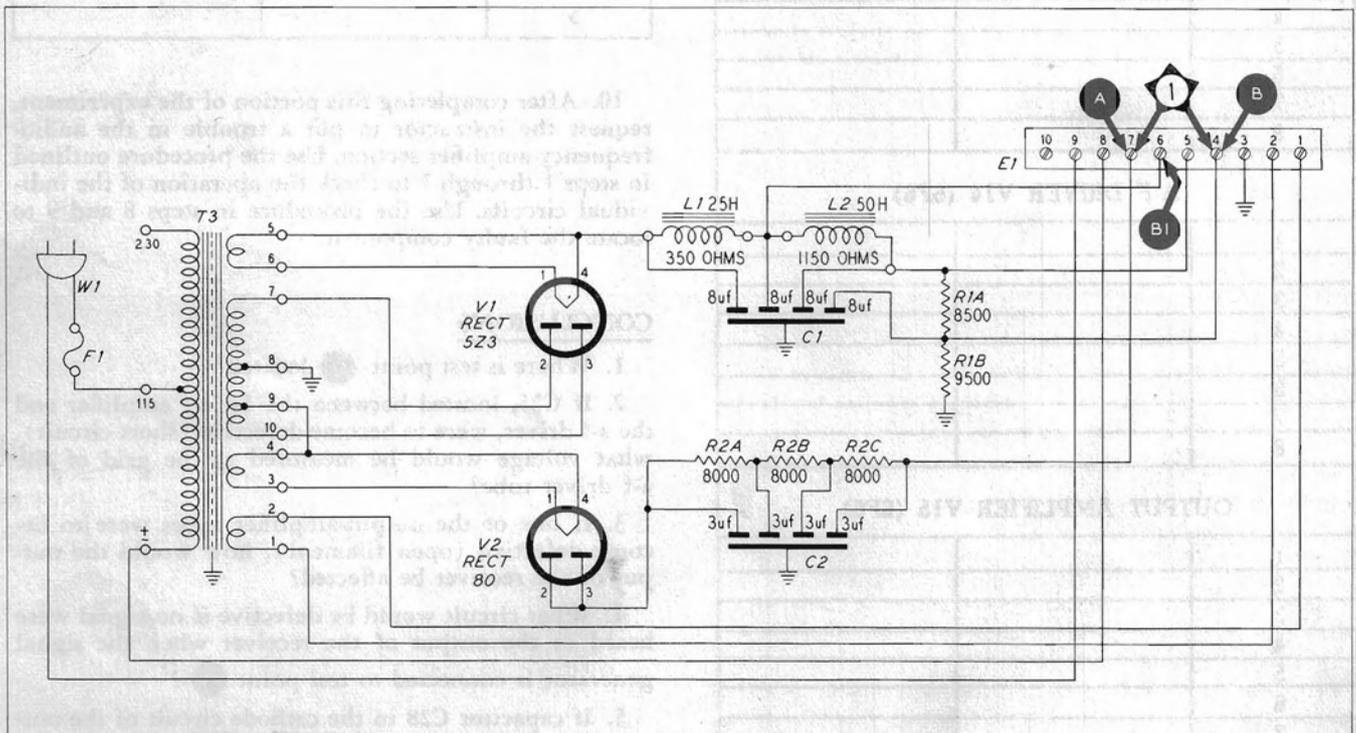

Figure 21. Power-Supply Circuits
The circuit, as shown in figure 21, is the schematic diagram of the RA-94-A, and is the same for all three power-supply units, except for the wiring of the primary of the power transformer. The power-supply unit is connected to the receiver through an interconnecting cable, which connects each of the terminals (except terminal 10) on terminal strip E1 to the terminal on terminal strip E4, in the receiver, which bears the same number. The power-supply unit is turned on by the ON-OFF switch, located on the re-
5. Draw figure 21 on the blackboard.